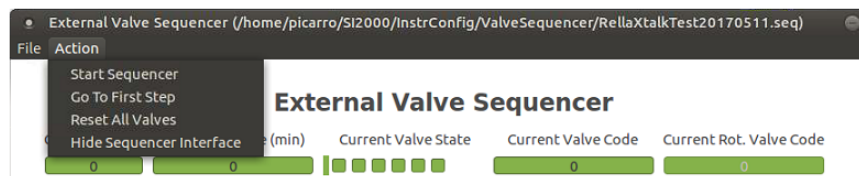

Figure 51: External Valve Sequencer Window Drop-Down Menus
Figure 51 shows the *External Valve Sequencer* window status bar menu items and actions.
The top row on the menu (see Figure 51 and 52) gives the current status of the current step.
2. Click on the *Action* drop-down menu (Figure 51 and 52).